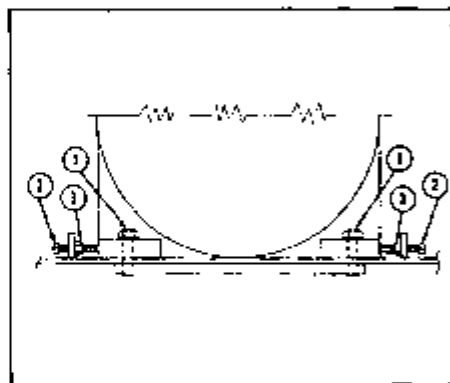

FIGURE 8
To replace the drive V-belts, first loosen motor hold-down bolts (1). Then loosen locknut (3) and adjustment screws (2) figure 8. Slide the motor toward the compressor to provide sufficient slack for belt removal and replacement. Tension belts by using motor adjustment screws (2). Check sheave alignment, adjust as necessary and then tighten hold down bolts (1) securely.
1. Place the belts in the sheave grooves and adjust motor adjustment screws, (2) figure 8, until belts are seated. Pull drive through by hand to equalize tension.